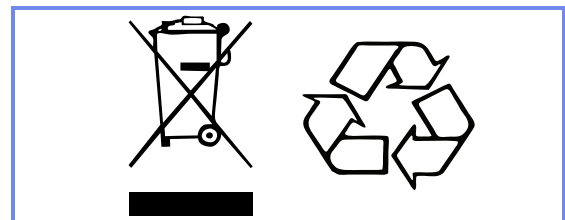

Figure 1
- For recycling and disposal of batteries, the rules according to the WEEE directive (Waste of Electronic and Electrical Equipment) as well as local laws and regulations must be followed. If not, they may explode, leak and cause personal injury. When returning batteries, insulate their terminals with adhesive tape. Otherwise, the residual electricity in used batteries may cause fire or explosion. Figure 1 below shows the symbols for disposal and recycling.